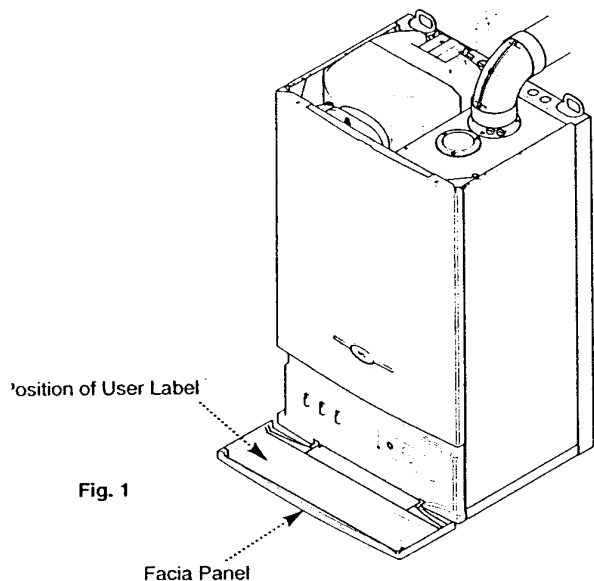

Fig. 1
7. A label giving details of the model, serial number and Gas Council number is situated on the rear of the facia panel (Fig. 1).